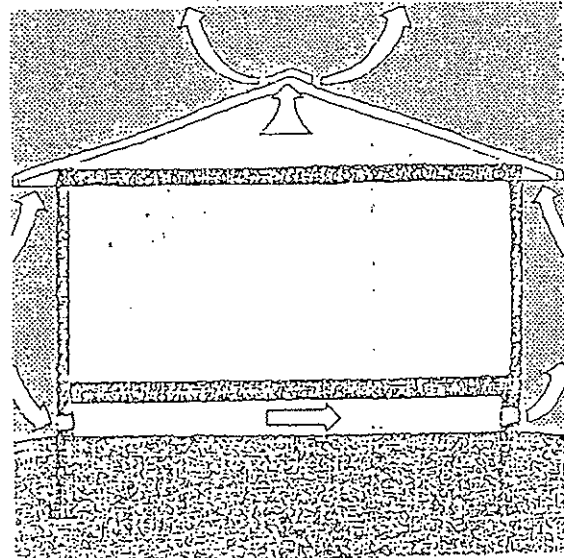

Figure 13 Attic and crawl space ventilation.
- 1 Ensure that vents in the attic and basement crawl spaces are open and free from obstruction. In extremely cold regions it may be necessary to have vents that can be closed during cold dry periods (Figure 13).